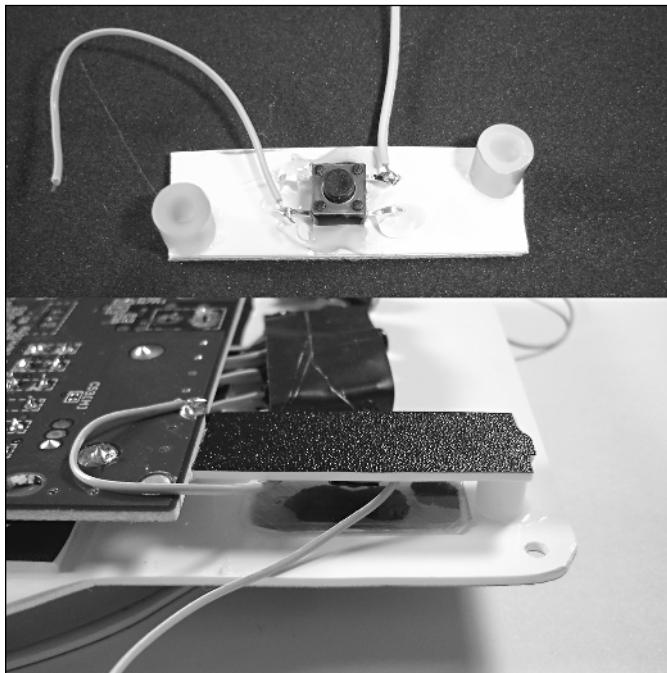

FIGURE 10-33: The tact switch and spacers attached to the engraving plastic.
7. Let's install the switch for the other shoulder button. Cut a piece of engraving plastic 1-5/8" wide by 1/2" high. Superglue a 1/4" nylon spacer in each corner, and hot-glue a tact switch in the middle, as shown in Figure 10-33. Solder a 2" wire to one terminal and a 10" wire to the other.